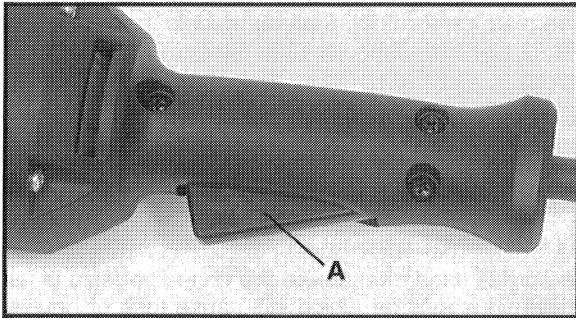

Fig. 1
2. Squeeze switch trigger (A) Fig. 1, to start the motor. Release trigger to stop motor.